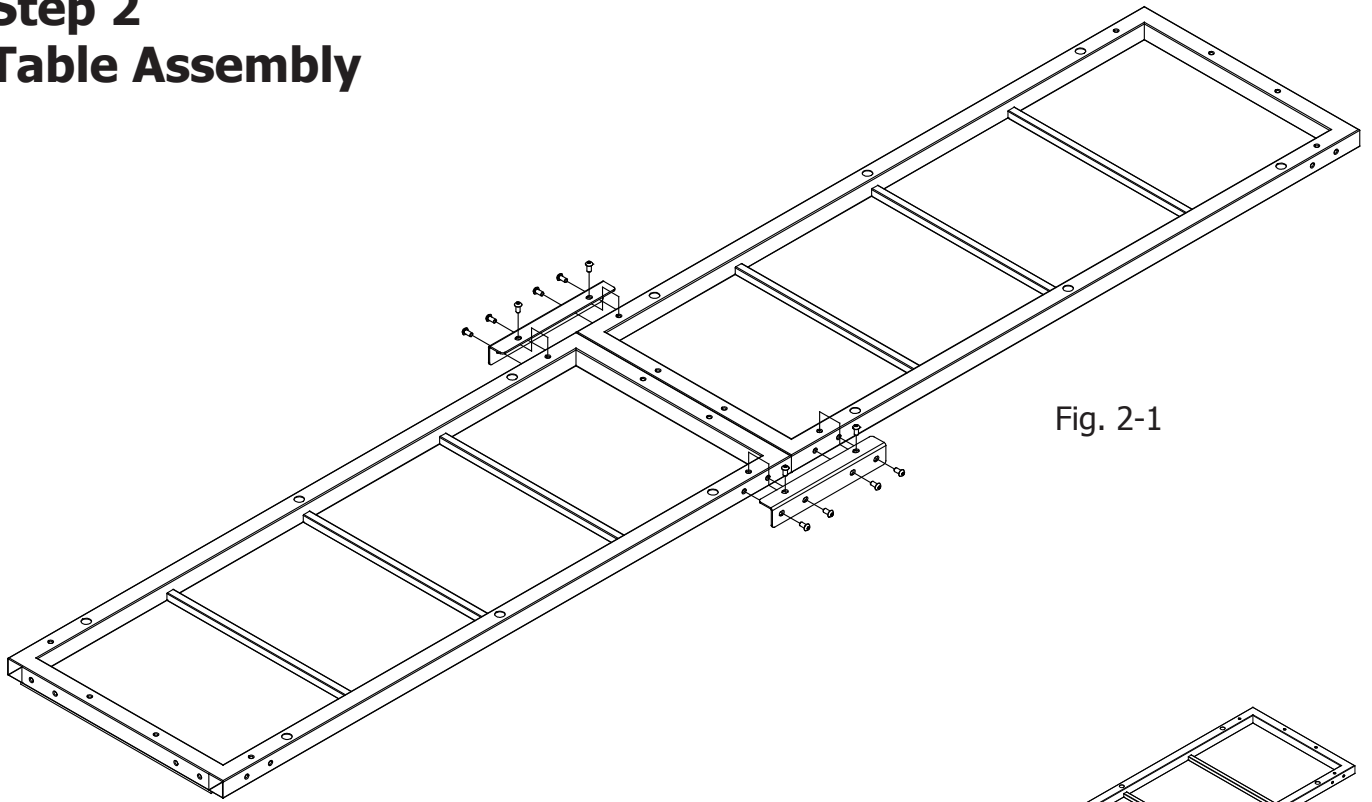

Fig. 2-1
**2-1:** With the table sections face down (large round screw holes for track supports up), slide the two table sections together end to end, as close as possible. Place a table splice onto the sections as shown in **Fig. 2-1**, lining up the holes in the splice with those in the sections. Repeat with remaining table splice on the opposite side of the table sections.
**2-2:** Place four (4) M8x16mm QF09318-07 through the side of each table splice and finger-tighten them into the table sections. (**Fig. 2-1**)
**2-3:** Finger-tighten two (2) M8x16mm QF09318-07 through the top of each table splice.
**2-4:** Pull the two (2) table sections as close together as possible to remove gap.